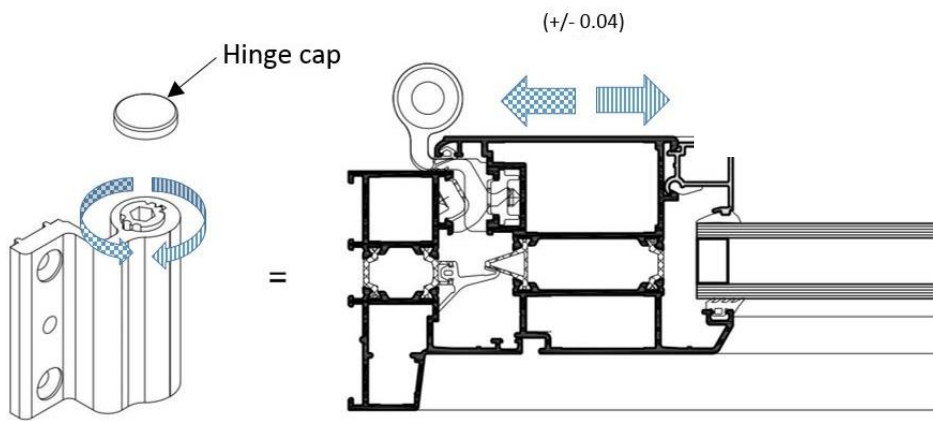

Figure 7
- After the sash is installed into the door frame make final adjustments to the hinges as shown in figure 7. Turning the hinge clockwise will move the sash towards the keepers, turning the hinge counter clockwise will move the sash away from the keepers. After hinges have been adjusted install hinge caps to lock the adjustments made.